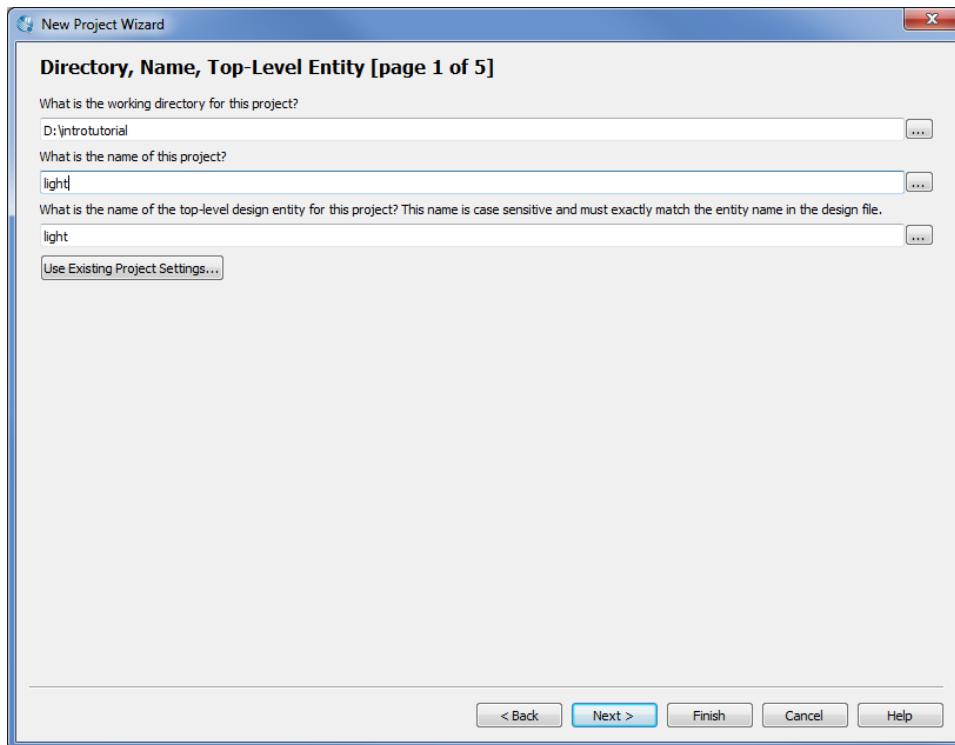

Fig 2. Creation of a new project.
2. Select File > New Project Wizard and click Next. The program should be in fig 2. Then you can chose the directory to save the project and select the name of the project in this step and click Next to continue.